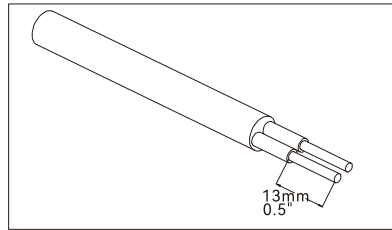

Figure 3
- Cut the lead wires 0.5" (13mm) lead (Figure 3).